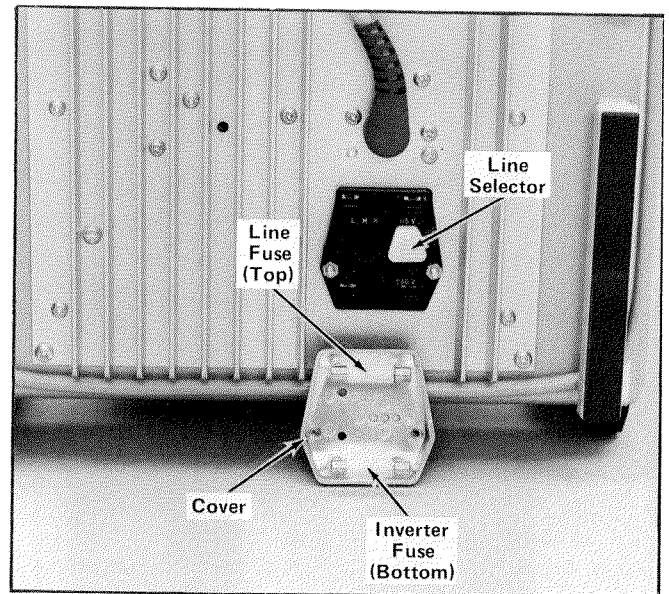

Fig. 2-1. Line Selector assembly on rear panel (shown with cover removed).
3. To convert from 115-volts to 230-volts nominal line voltage, or vice versa, pull out the Selector switch bar (see Fig. 2-1) and plug it back into the remaining holes. Change